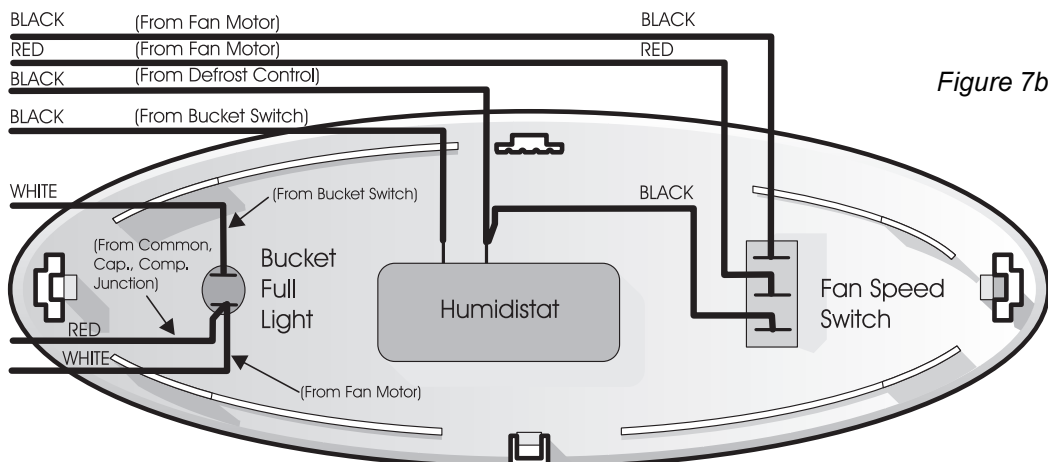

Figure 7b
NOTE: See Figure 7b for location of electrical wires.
2. Disconnect three wires connected to two terminals on pilot light. (See figure 7b.)